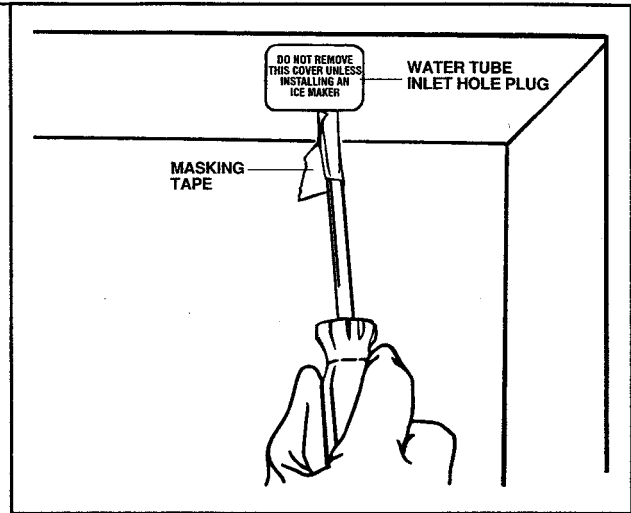

Figure 9
9. Cover the flat-blade screwdriver with masking tape to protect the exterior rear surface of the refrigerator cabinet. Remove the plug for the water tube inlet hole. See Figure 9.